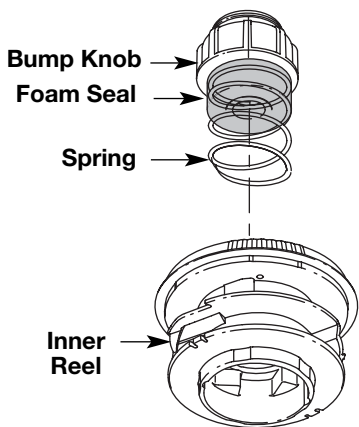

Fig. 23
1. Turn the bump knob counterclockwise and remove the bump knob, spring and foam seal (Fig. 23).
4. Hold the inner reel in place and install the bump knob, spring and foam seal. Press down and turn the bump knob clockwise. Grasp the ends and pull firmly to release the line from the holding slots in the inner reel (Fig. 23).
2. Pull out the bump knob, spring and foam seal (Fig. 23).
7. Place the bump knob, spring and foam seal into the inner reel (Fig. 23).